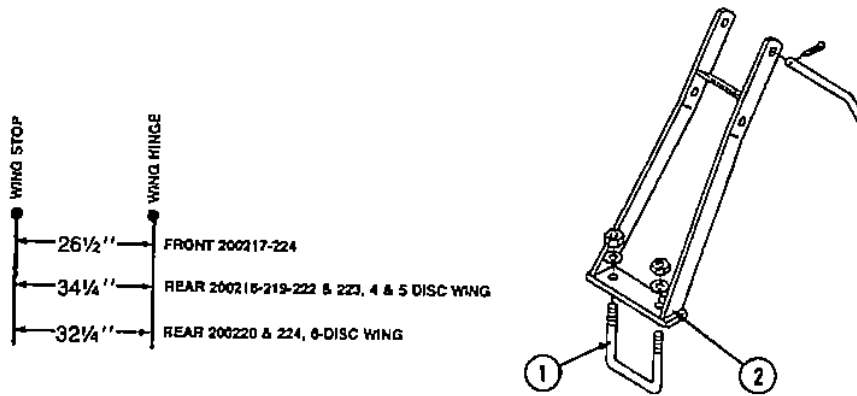

FIG. 16 — WING STOP
2. Remove the U-bolt, Item 1, from the wing stop (Item 2, Fig. 16). Position the wing stop in its proved position (see above figure) and secure with the U-bolt previously removed.